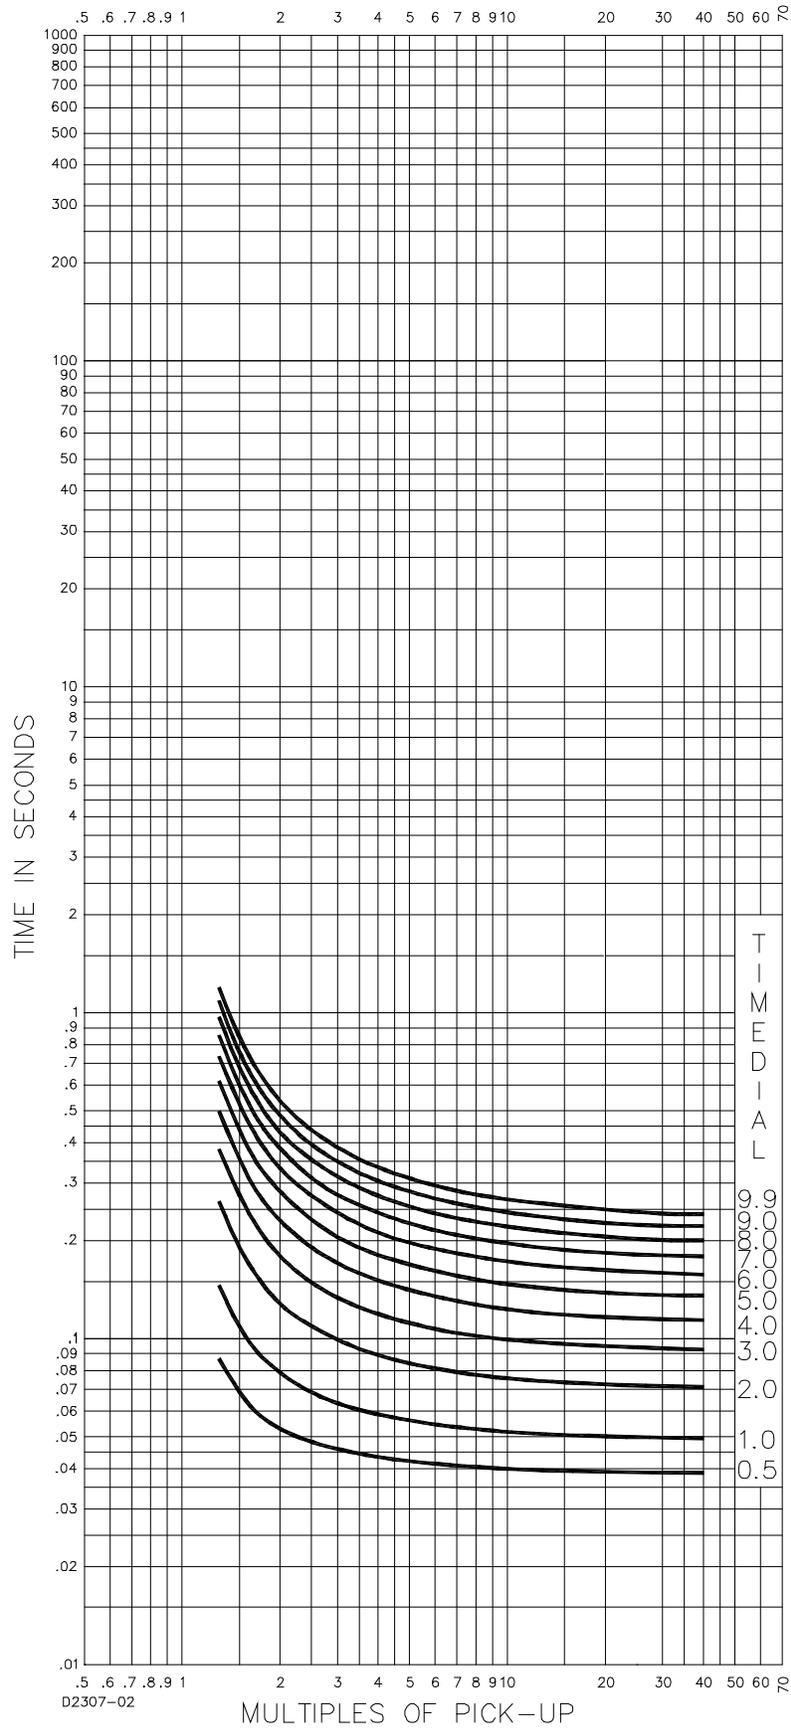

Figure 7-10. S2-Short Inverse Curve (SW3-3 On, Similar to GE IAC 55)
- S2-Short Inverse (SW3-3 ON, Similar to GE IAC 55): Figure 7-10